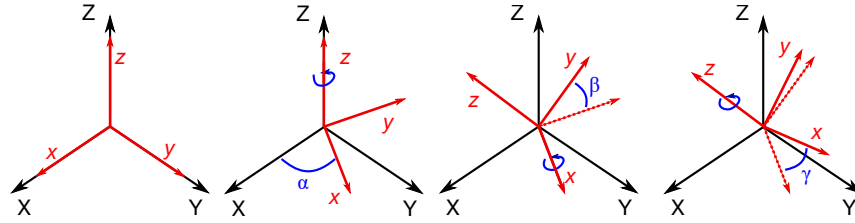

Figure 7-1. A rotation represented by Euler angles (α, β, γ) using $Z(\alpha)X(\beta)Z(\gamma)$ intrinsic rotations.
2. **Local Coordinate Systems.** It is possible to have the ICFD parts or ICFD_PART_VOLs rotate around the global reference frame but also to define and use a local reference frame by defining its point of origin and two of its vectors $\mathbf{v}_1 = (X1, Y1, Z1)$ and $\mathbf{v}_2 = (X2, Y2, Z2)$ (note that \mathbf{v}_1 and \mathbf{v}_2 should be orthogonal). The third vector is, then, in the direction of $\mathbf{v}_1 \times \mathbf{v}_2$. See Figure 7-1.